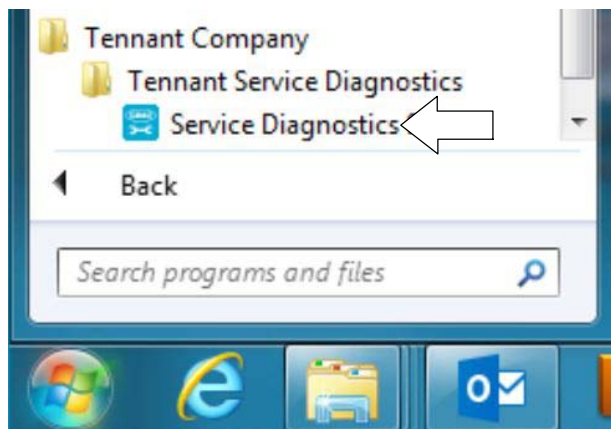

Fig. 13
2. Start the Service Software Application program “**Service Diagnostics...**”(Figure 4). Refer to Figure 13 for further details to access Software.
The software is pre-installed on your computer as shown below. The software application is titled “**Service Diagnostics**” (Figure 13).
7. After the service application software is installed on your computer, refer to figure 13 to access the program.
5. After the software is installed on your computer, refer to figure 13 to access the program.